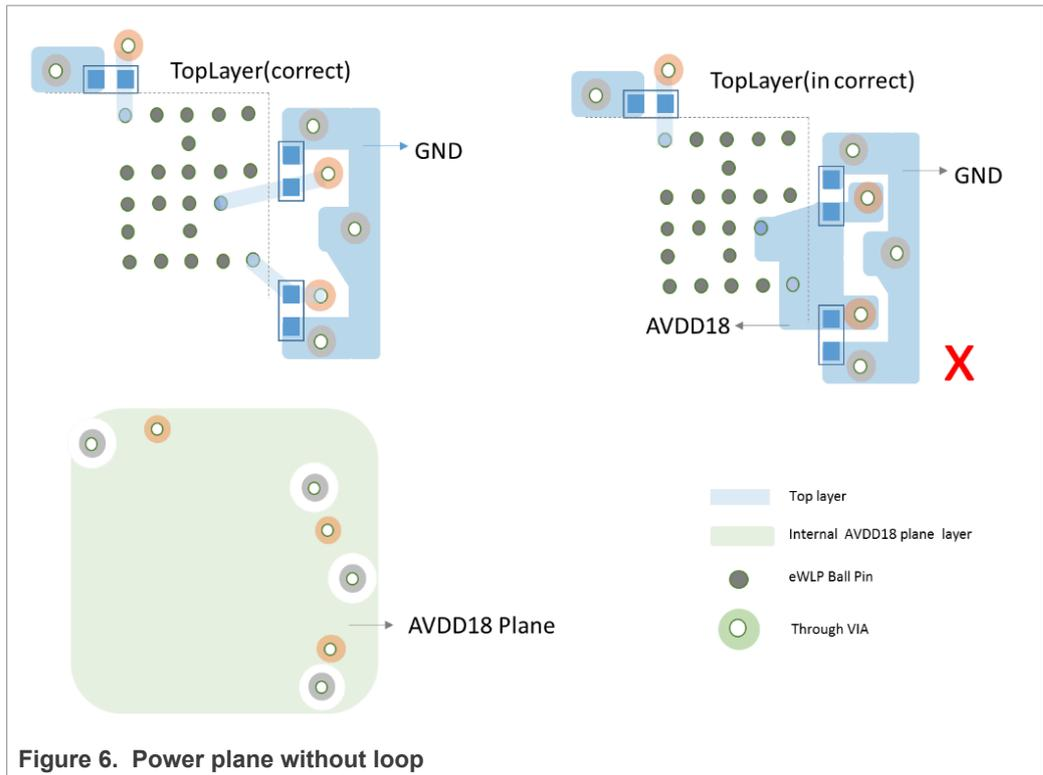

Figure 6. Power plane without loop
- Do not place any analog power plane (trace) as ring and loop in the layout. Figure 6 shows the correct top layer (left hand side of the figure) and the incorrect top layer (right hand side). In the correct top layer, there is no loop on the AVDD18 net.